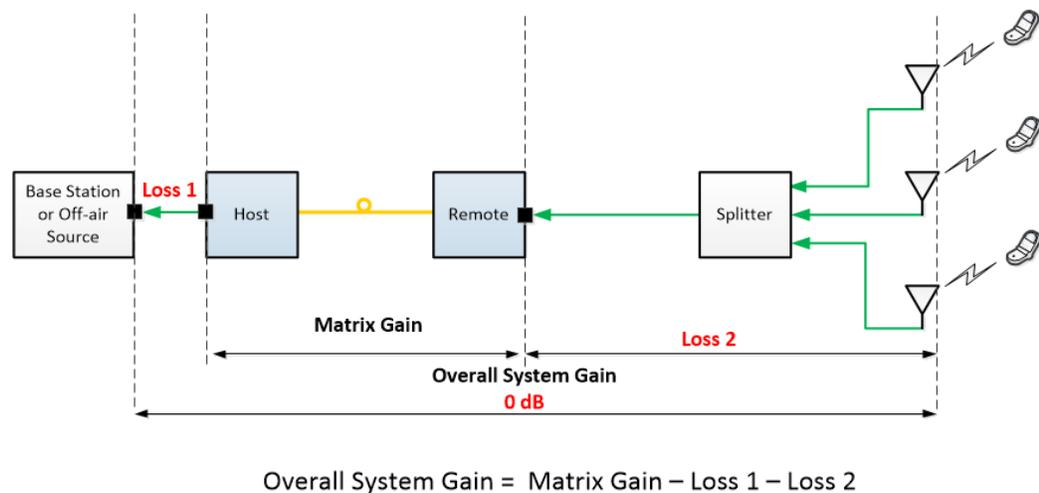

Figure 15-9: Overall System Gain
- Overall system gain is equal to the Matrix gain minus the loss between the base station and the input to the host (Loss 1), and the loss between remotes and the antenna output (Loss 2). See Figure 15-9.